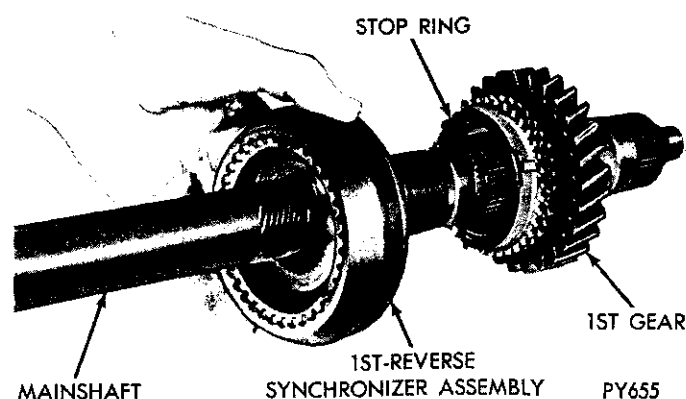

Fig. 22—1st-Reverse Synchronizer Assembly—Removal or Installation
- (9) Slide 1st-Reverse synchronizer assembly off splines and remove from mainshaft (Fig. 22).
(15) Slide 1st-Reverse synchronizer assembly over mainshaft, indexing the hub slots to 1st gear stop ring lugs (Fig. 22).